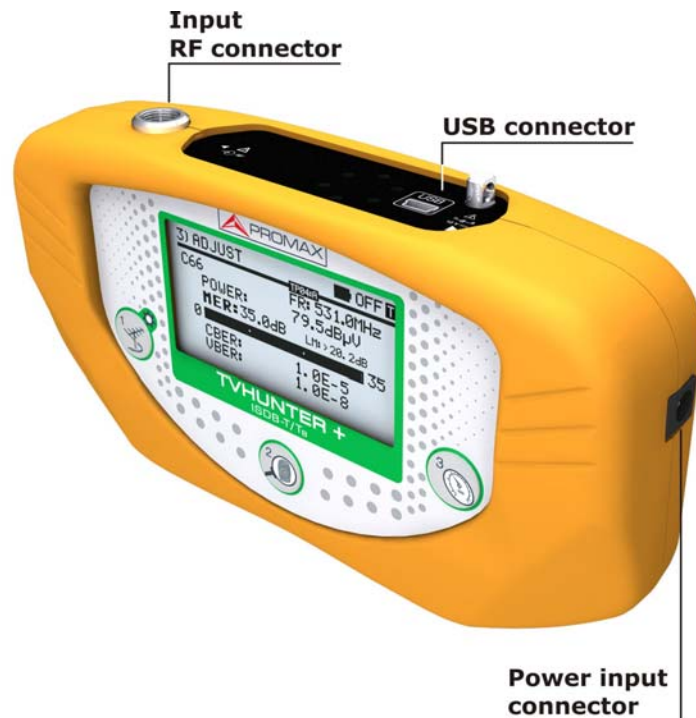

Figure 6. Side panels.
- 1 Turn the TVHUNTER+ off and connect the mains adapter to the external power connector  [4] (see Figure 6.-) at the right side panel.
- 1 To fully charge the battery, connect the mains adapter to the external power supply input  [4] (see Figure 6.-) with the TVHUNTER+ switched off.